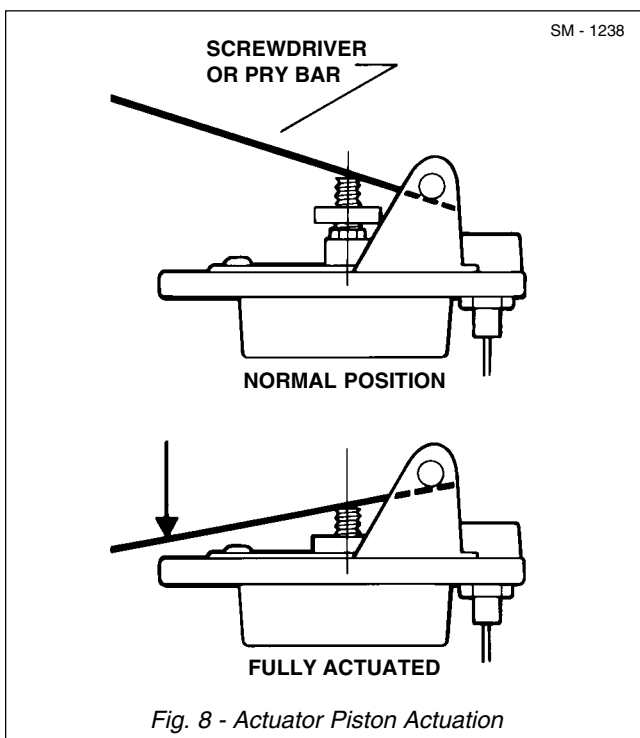

Fig. 8 - Actuator Piston Actuation
1. Position the valve in the test fixture to allow plunger to be activated by hand using a lever. See Fig. 8.
1. Install actuator base (3) and secure to valve using capscrews, washers and nuts. Torque tighten capscrews to 20 - 21 Nm (180 - 190 lbf in). Install pivot pin (2) in actuator base (3) by itself without installing pedal assembly (1).
2. By taking a screw driver or pry bar and placing it under pivot pin (2) and on top of adjusting screw (4), you will be able to actuate the piston. See Fig. 8.
3. Gradually apply pressure to check for leaks. Make sure adjusting screw (4) is screwed all the way down on the threads.
4. Adjust adjusting screw (4) up (anticlockwise) in small increments until the output pressure is 138 ± 6.9 bar ($2\ 000 \pm 100$ lbf/in²) at port 'B1' with adjusting screw (4) contacting actuator base (46) (fully actuated). See Fig. 8. Fine adjustment will require only turning the screw in 1/8 turn increments.
9. Apply Loctite 290 to the threads of the adjusting screw (4). Leave valve for a minimum of two minutes to allow Loctite to cure.